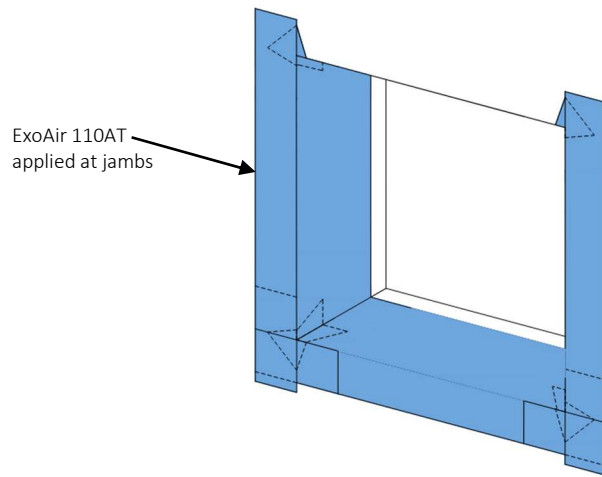

Fig. 15
- d. Install ExoAir 110AT onto the jambs 3" minimum into the rough opening and onto the exterior wall and extending 3" passed the rough opening on either side. – **Figure 15.**